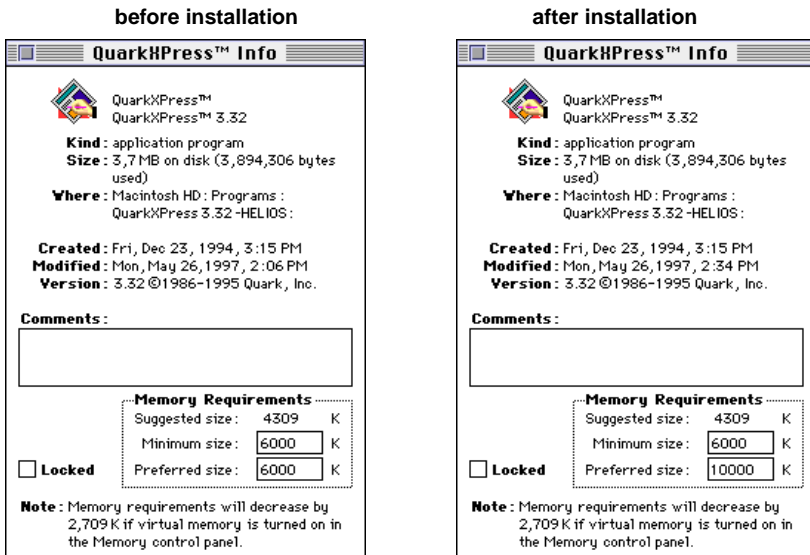

Fig. 6: Defining memory requirements for QuarkXPress
- QuarkXPress info window as shown in figure 6.
Important: If you have enough memory available to run your different applications, you should prefer working with virtual memory turned off (as illustrated in figure 6), because this guarantees better performance. You can turn virtual memory on/off in the **Memory** control panel and then have to restart the system.